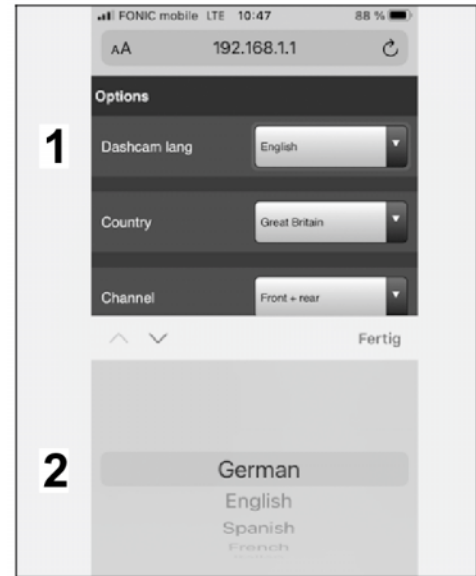

Figure 28
5.3 Basic settings for front camera (dashcam) in the "Options" (⇒ *Figure 28*) menu item
Example: German (⇒ Figure 28)